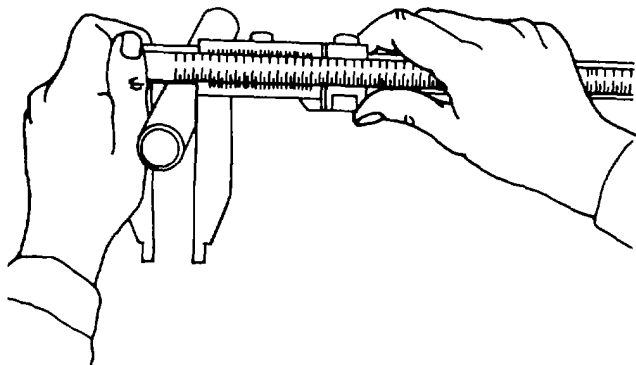

Figure 3-29. Vernier Caliper
(6) *Vernier calipers.* Vernier calipers work like slide calipers. Shown in figure 3-29, vernier calipers can make very accurate outside or inside measurements.